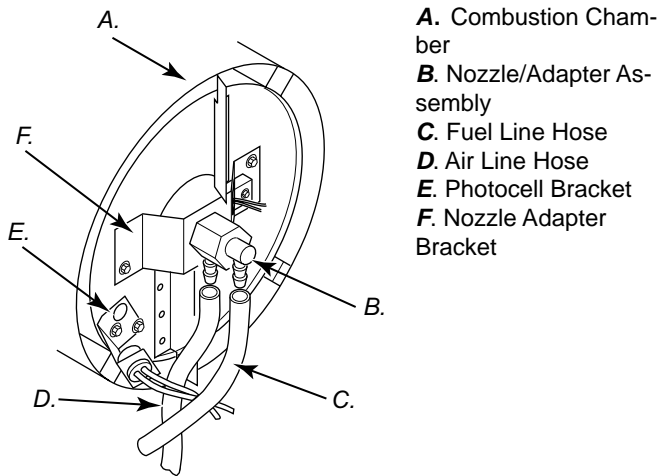
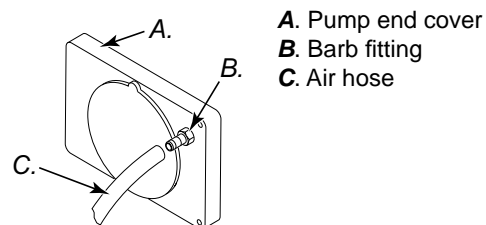

Figure 17 – Removing air and fuel line hoses, 35.000 and 70.000 Btu/Hr Models.
Figure 22 – Air hose to barb fitting
14. Replace photocell in photocell bracket. Route wires as shown in either Figure 17, 18, or 19, page 11.
3. Remove fuel and air line hoses from nozzle assembly (see Figure 17, 18 or 19).
4. Inspect fuel and air line hoses for cracks and/or holes. If fuel line hose is damaged, disconnect from nozzle adapter (see Figure 17, 18, or 19) and from fuel filter (see page 6). If air line hose is damaged, disconnect from nozzle adapter (see Figure 17, 18, or 19) and from barb fitting on pump end cover (see Figure 22).
5. Install new air and/or fuel line. Attach one end of air line hose to barb fitting on pump end cover (see Figure 22) and the other end to nozzle adapter (see Figure 17, 18, or 19). Attach one end of fuel line hose to fuel filter (see page 6) and the other end to nozzle adapter (see Figure 17, 18, or 19). For 35.000 and 70.000 Btu/Hr model heaters, route air and fuel lines approximately as shown in Figure 17.